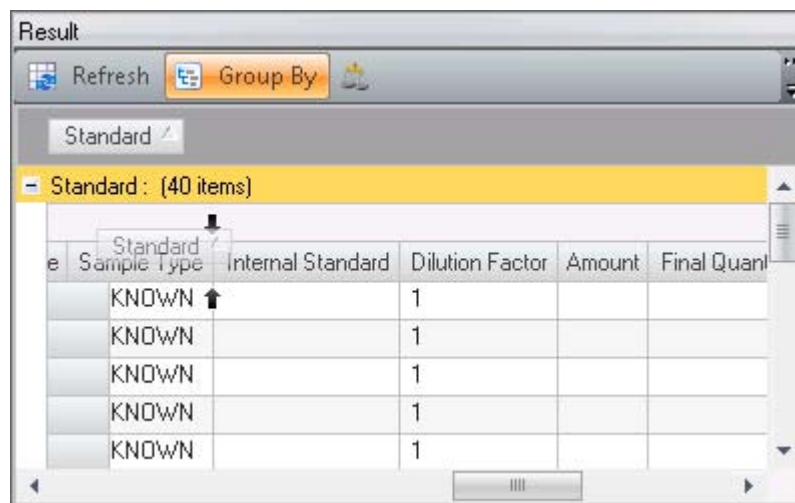

Figure 5-30. Redo results grouping by column in Experiment Editor
14. Drag and drop the column header back to redo the grouping, see Figure 5-30.